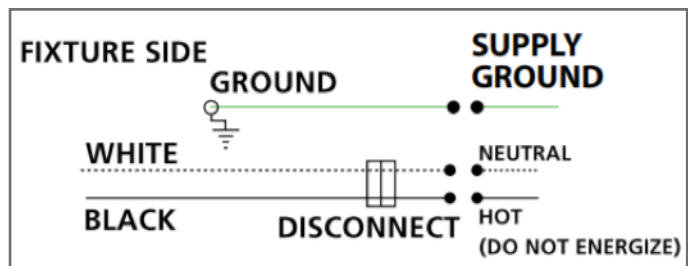

FIGURE 5
4. Route the input wires through the chosen knockout and make electrical connections according to Figure 5.